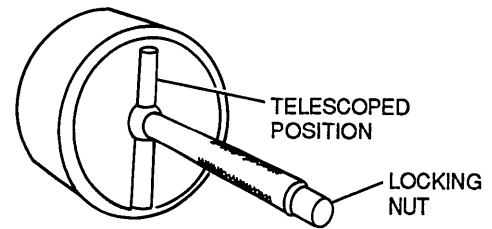

Figure 3-78. Measuring Hole With Telescoping Gauge
- (1) Loosen the knurled nut at the end of the handle.
- (2) Telescope the adjustable end of the gauge of a size slightly smaller than the hole, and retighten the nut.
- (3) Insert the gauge into the hole as shown in figure 3-78.
- (4) Loosen the nut to permit the spring-loaded adjustable end to expand to the hole diameter, and tighten the nut. The spring-loaded feature will assure proper contact.